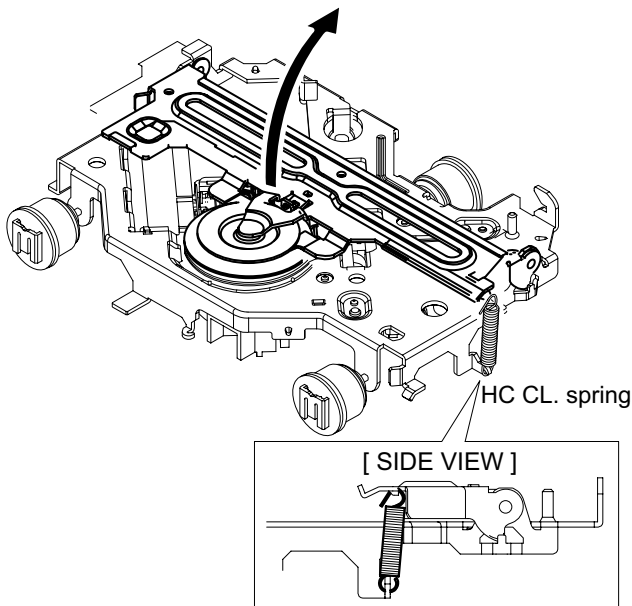

Fig.8
3.2.4 Removing the Spindle motor (See Fig.8. 9)
- (1) Remove the HC CL. Spring from the HC CL. base and the TM base, and then lift up the HC CL. base. (See Fig.8)